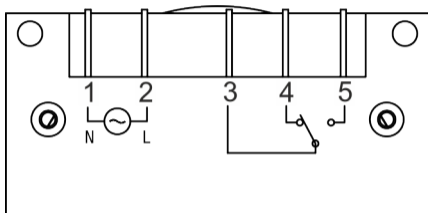

Fig. 8: Wiring diagram for actuator (receiver)
3. Insert the connection lugs (flat, DIN 6.3) into the corresponding cable lugs in accordance with the wiring diagram (Fig. 8).